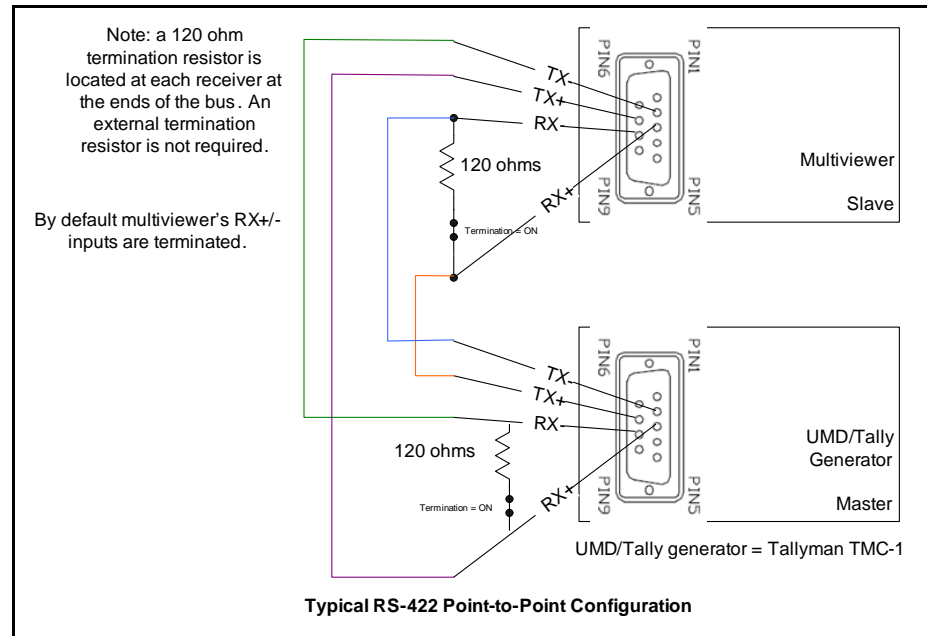

Figure C-3. Typical RS-422 Point-to-Point Configuration
- RS-422 cable connection between a multiviewer (COM 1–4) and a UMD/tally device (see Figure C-3 on page 90)